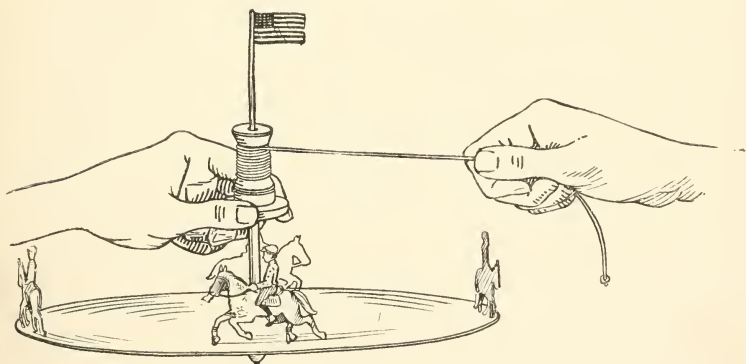

FIG. 132. — A Merry-go-round Top.
**A Merry-go-round Top** (Fig. 132) is a new idea easily carried out. You will require a cardboard disk 12 inches
manner that you wind the cord on any top; then, holding spool end *E* with the left hand (Fig. 132), pull steadily upon the cord with the right hand until all is unwound, and gently drop the top upon its spinning point. To get the best results, the cardboard used for the disk platform must be very straight. If it warps, flatten it by pressing it under a pile of books.